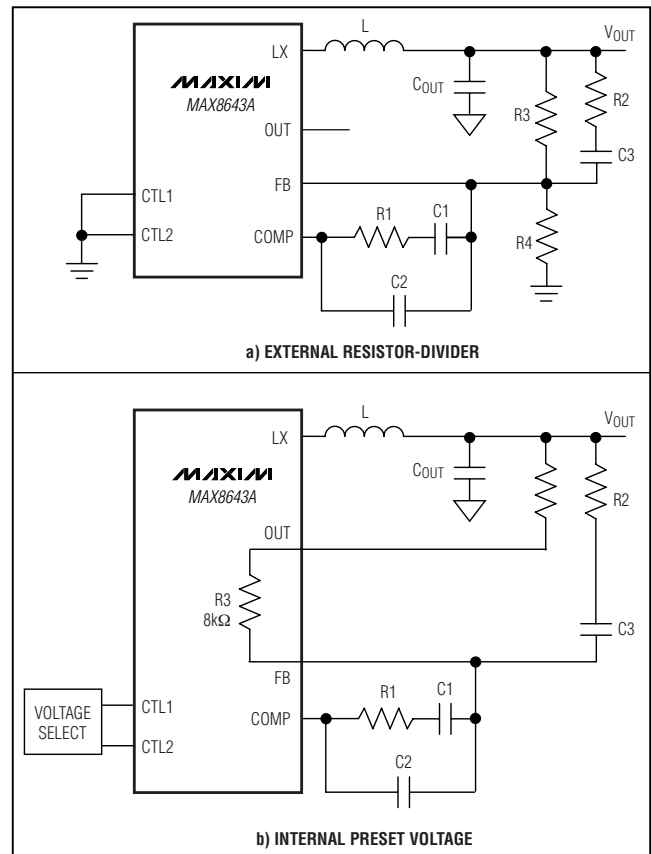
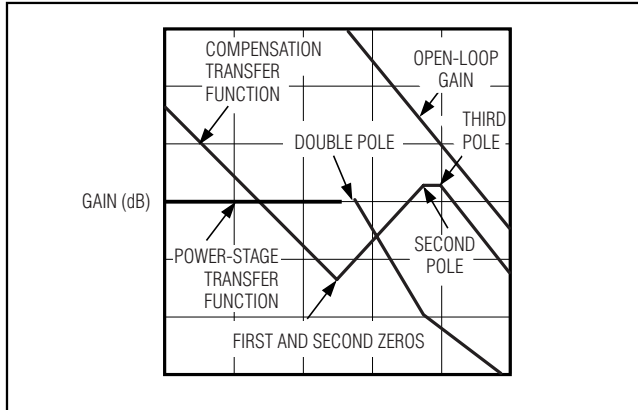

Figure 3. Type III Compensation Network
Figure 4. Type III Compensation Illustration
The high switching frequency range of the MAX8643A allows the use of ceramic output capacitors. Since the ESR of ceramic capacitors is typically very low, the frequency of the associated transfer function zero is higher than the unity-gain crossover frequency, f_c , and the zero cannot be used to compensate for the double pole created by the output filtering inductor and capacitor. The double pole produces a gain drop of 40dB/decade and a phase shift of 180°/decade. The error amplifier must compensate for this gain drop and phase shift to achieve a stable high-bandwidth closed-loop system. Therefore, use type III compensation as shown in Figure 3 and Figure 4. Type III compensation possesses three poles and two zeros with the first pole, f_{P1_EA} , located at zero frequency (DC). Locations of other poles and zeros of the type III compensation are given by: